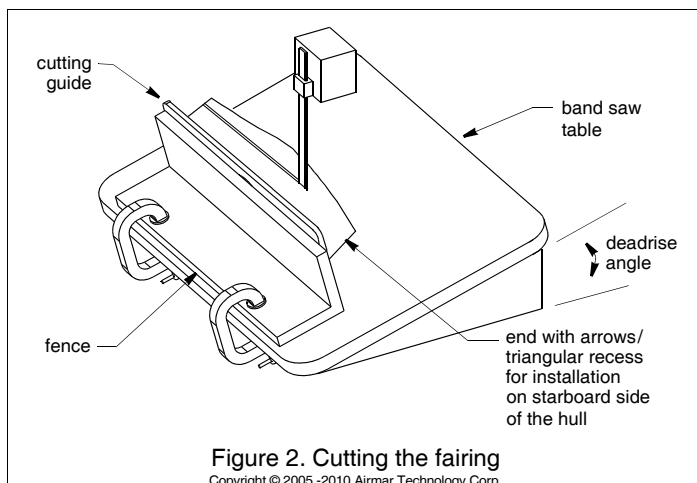

Figure 2. Cutting the fairing
2. Tilt the band saw table to the measured angle and secure the cutting fence (see Figure 2).